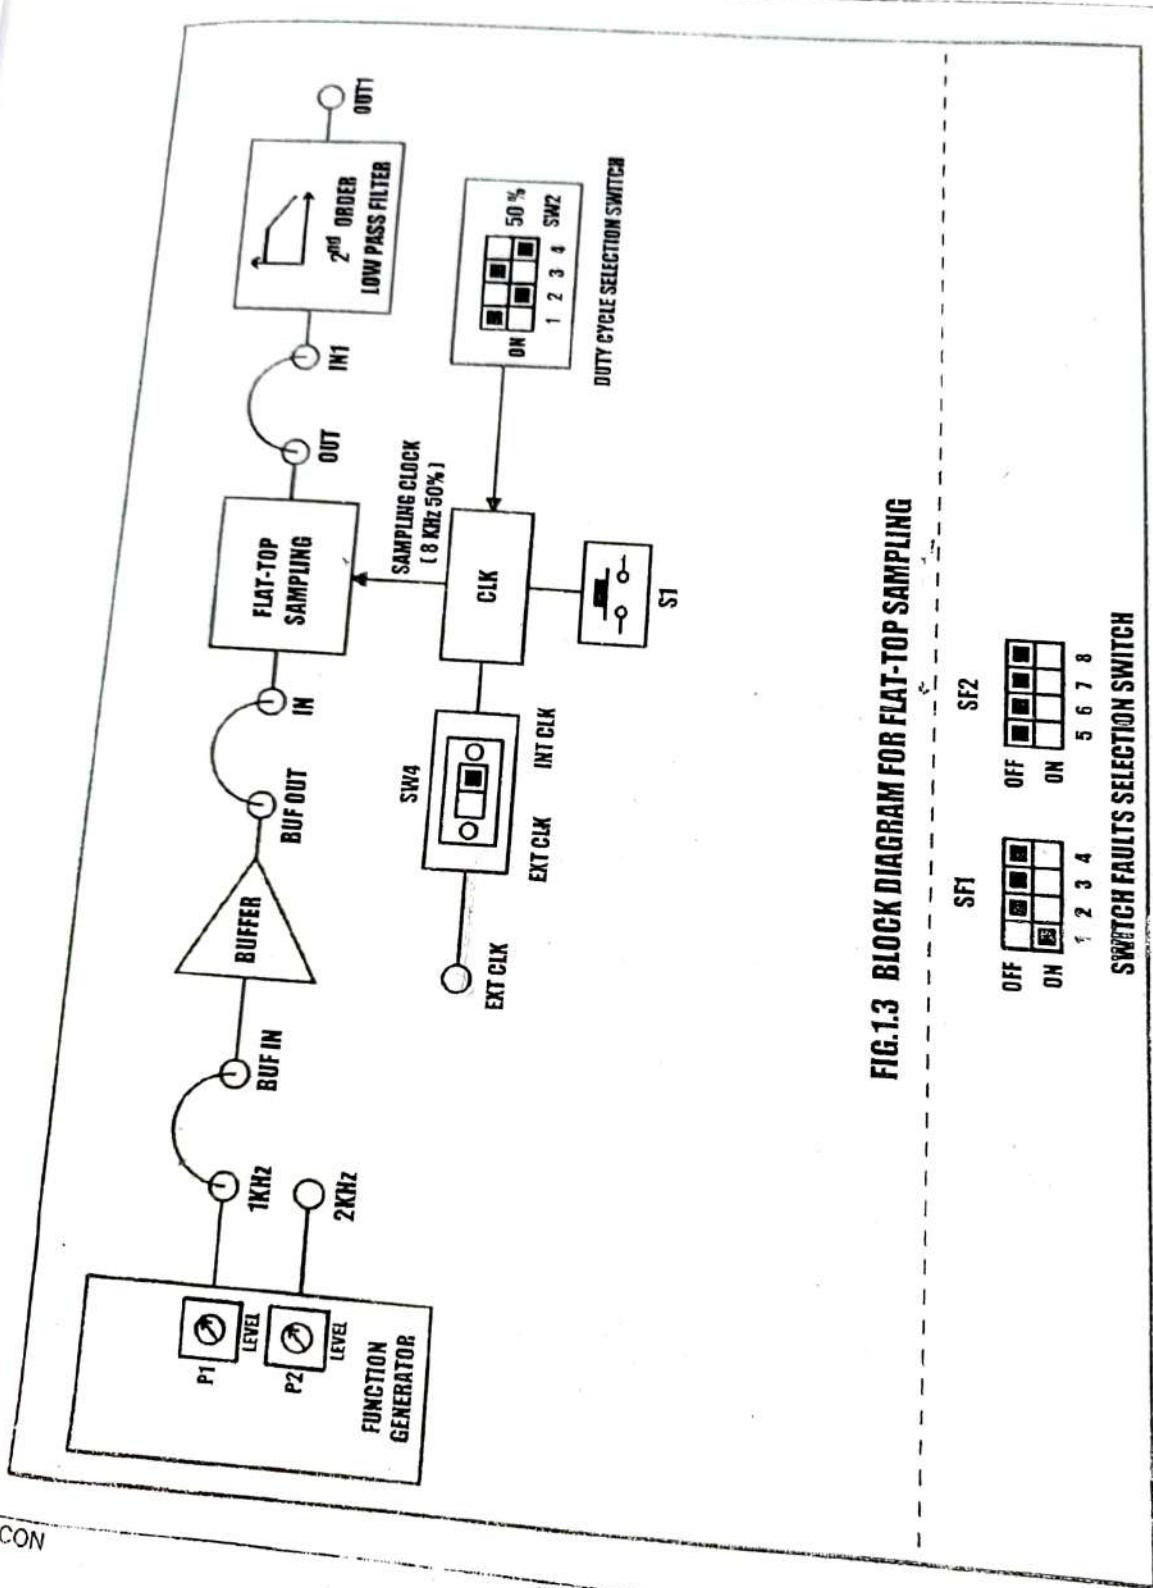

FIG.1.3 BLOCK DIAGRAM FOR FLAT-TOP SAMPLING
1. Refer to the Block Diagram (Fig. 1.3) & Carry out the following connections and switch settings